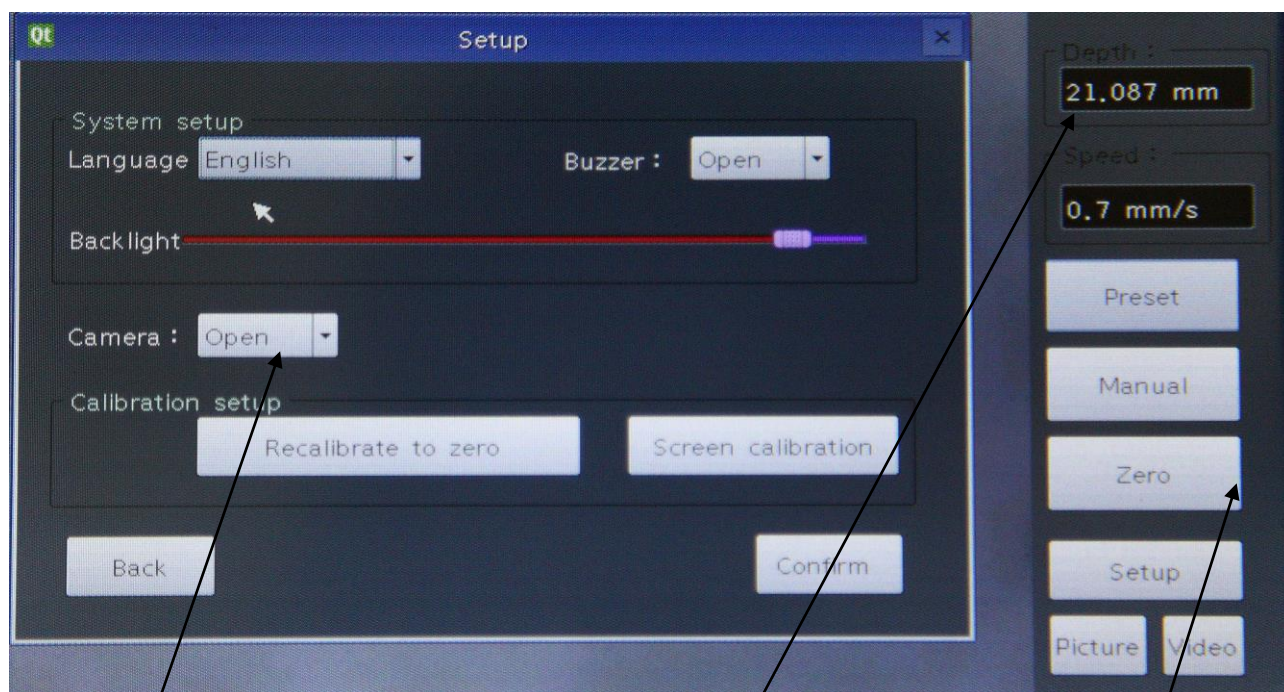

Figure 2
3.3.2 The main interfaces as shown in Figure 2: